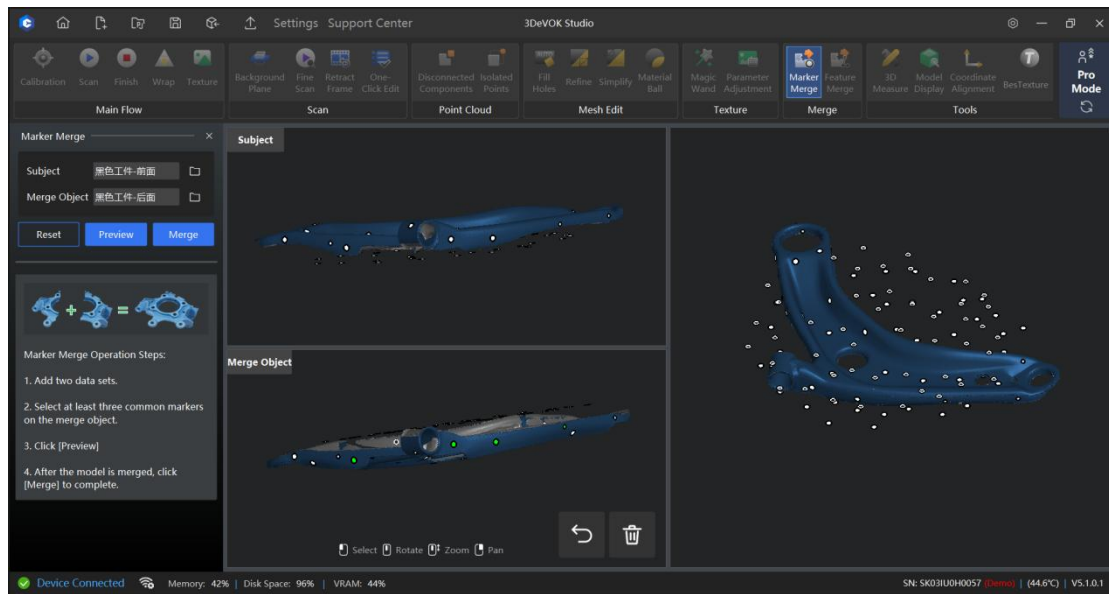

Figure 9-9 Preview of Marker Merge
5. Click the "Preview" button to view the merge effect in the right-hand window, as shown in Figure 9-9. Click "Merge" if the object is correctly combined.